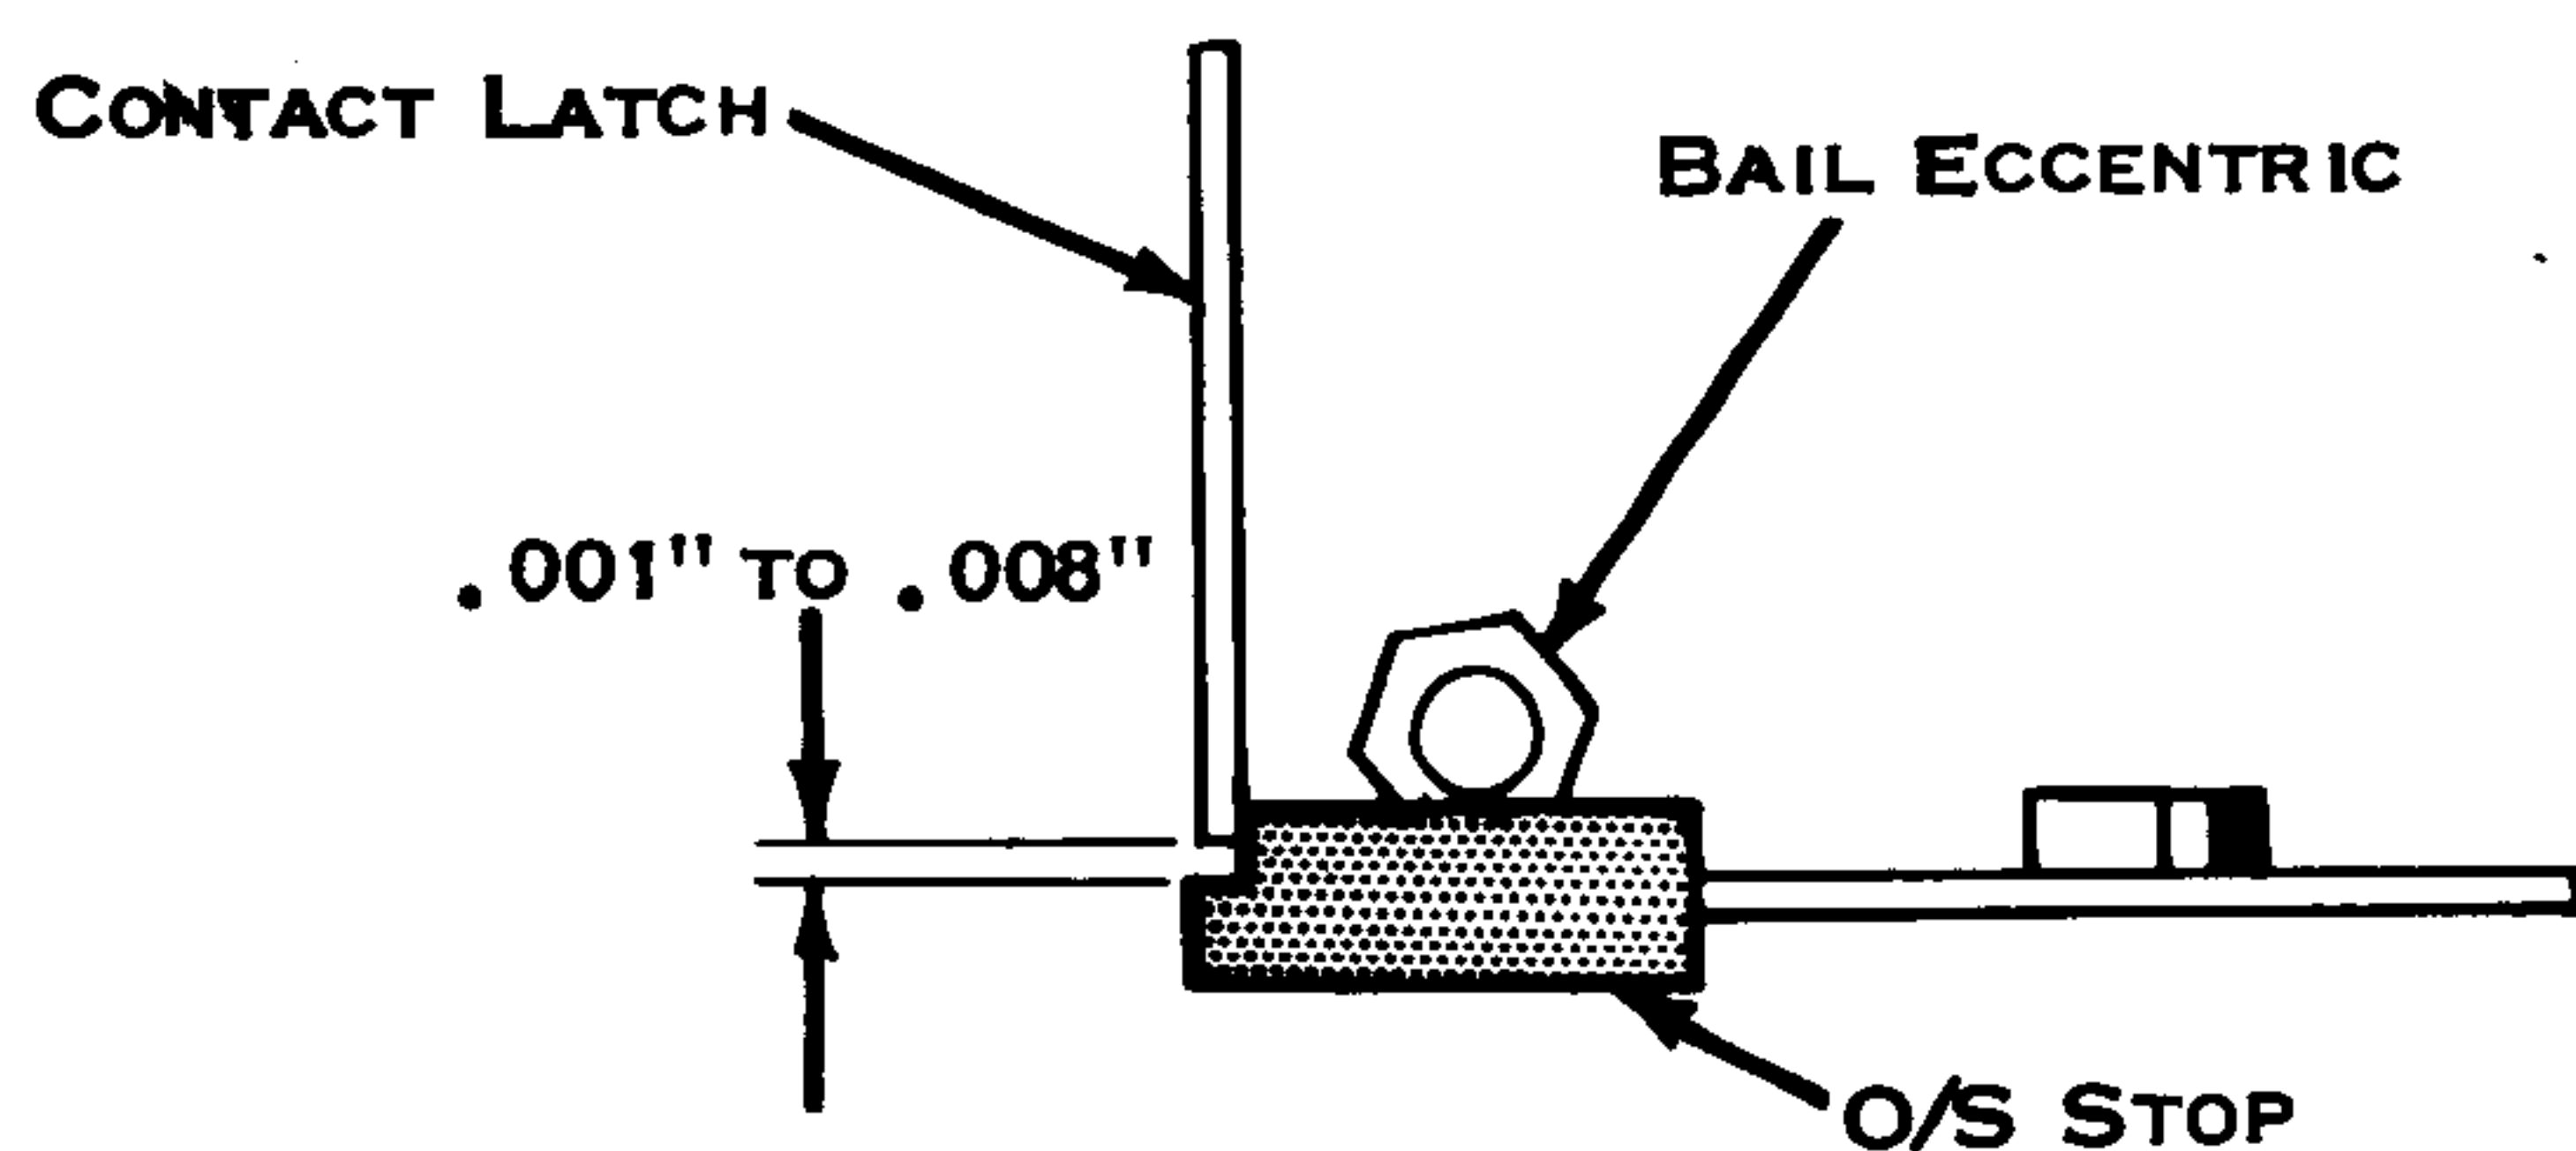

Figure 140. Bail Eccentric
2. Bail Eccentric (Fig. 140) - Adjust (all operational functions restored) so that the latches clear the O/S stops by .001" to .008".